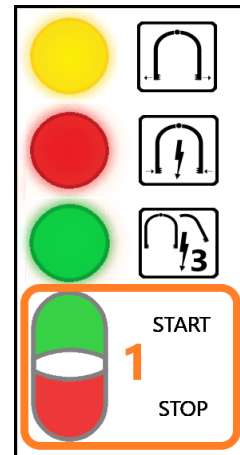

Fig. 8 VBE-M
3. Turn on the **VBE-M** using the **START** button (**Fig. 8 pos. 1**) - the device will automatically enter the *readiness for operation mode* (the device uses mains power);